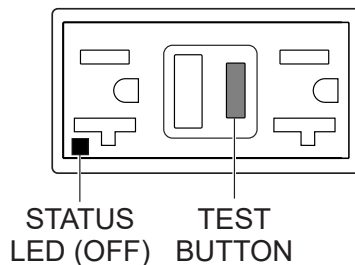

Figure 73. GFCI Receptacle (OFF)
4. Press the **TEST** button (Figure 73) on the GFCI receptacle and verify that the status LED turns **OFF**.